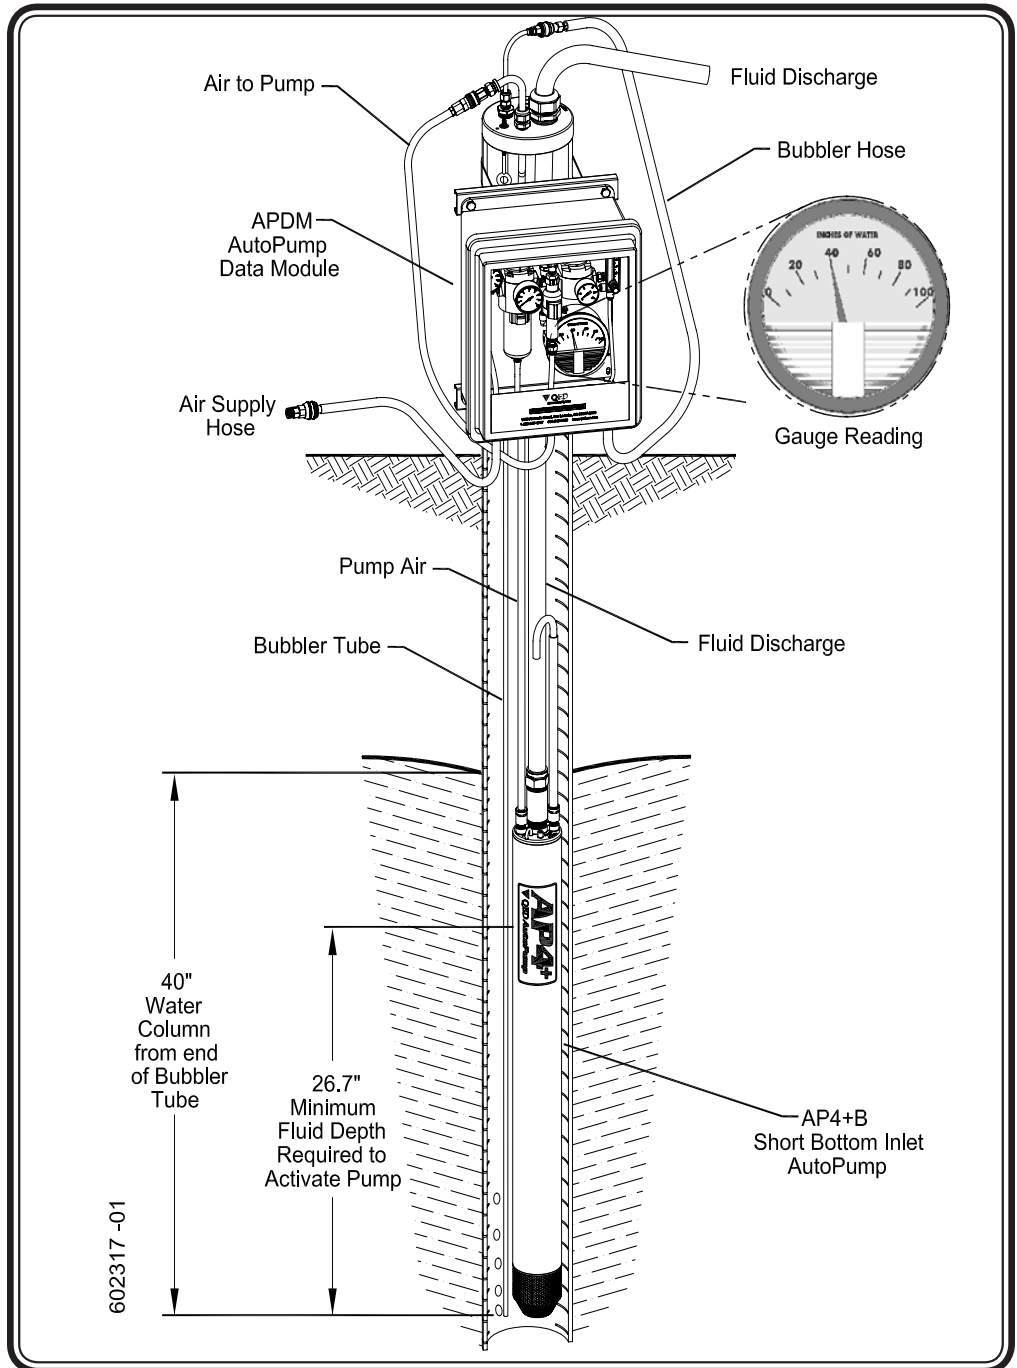

Figure 1 -Overview of a well with no vacuum Data Module and AutoPump System
**Figure 1** illustrates an overview of an APDM and AP4+ system.